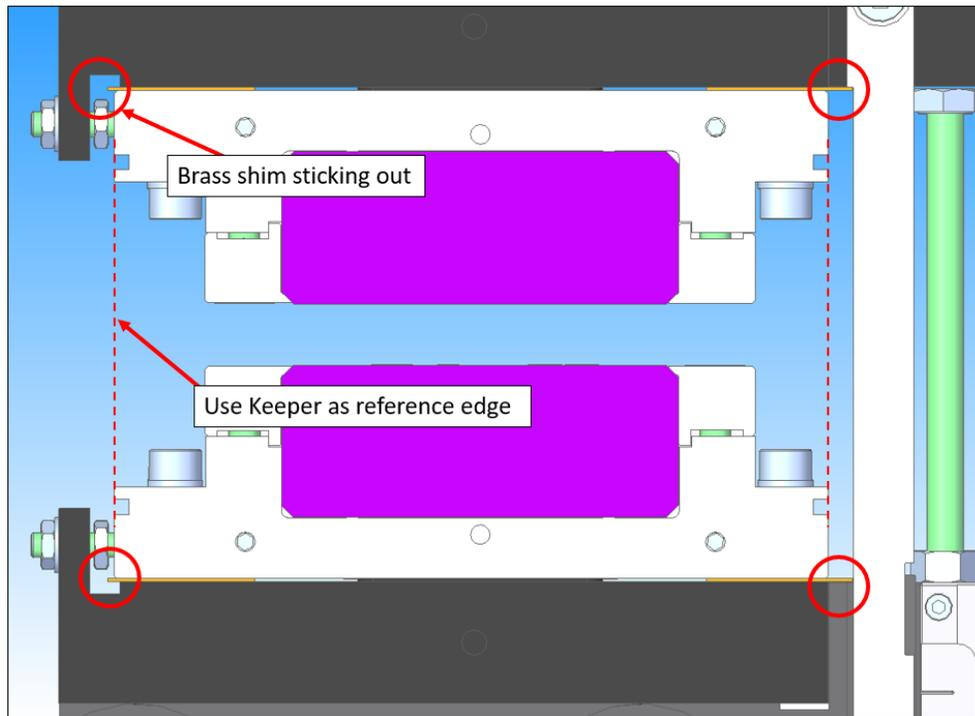
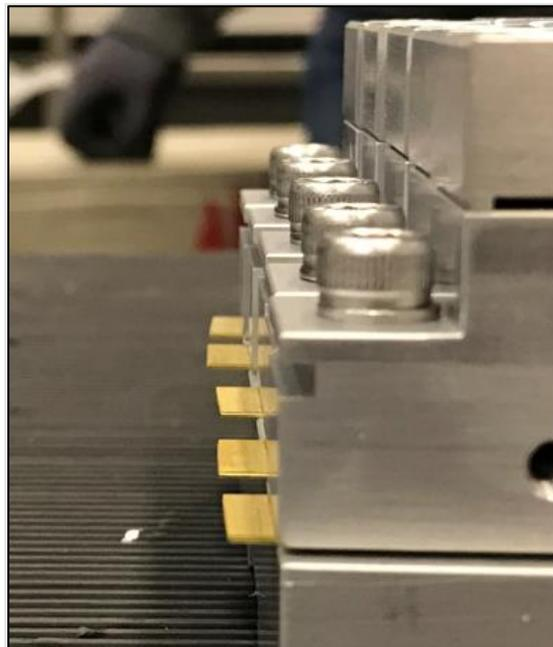

Figure 4: Brass shim sticking out relative to Keeper (z-axis view); length must stick out < 4mm
Figure 5: Brass shims underneath keepers; must be < 4 mm of sticking out
- Check brass shims underneath the keepers and check that they do not stick out from the keeper's edge by greater 4 mm (see Figure 4 and Figure 5).